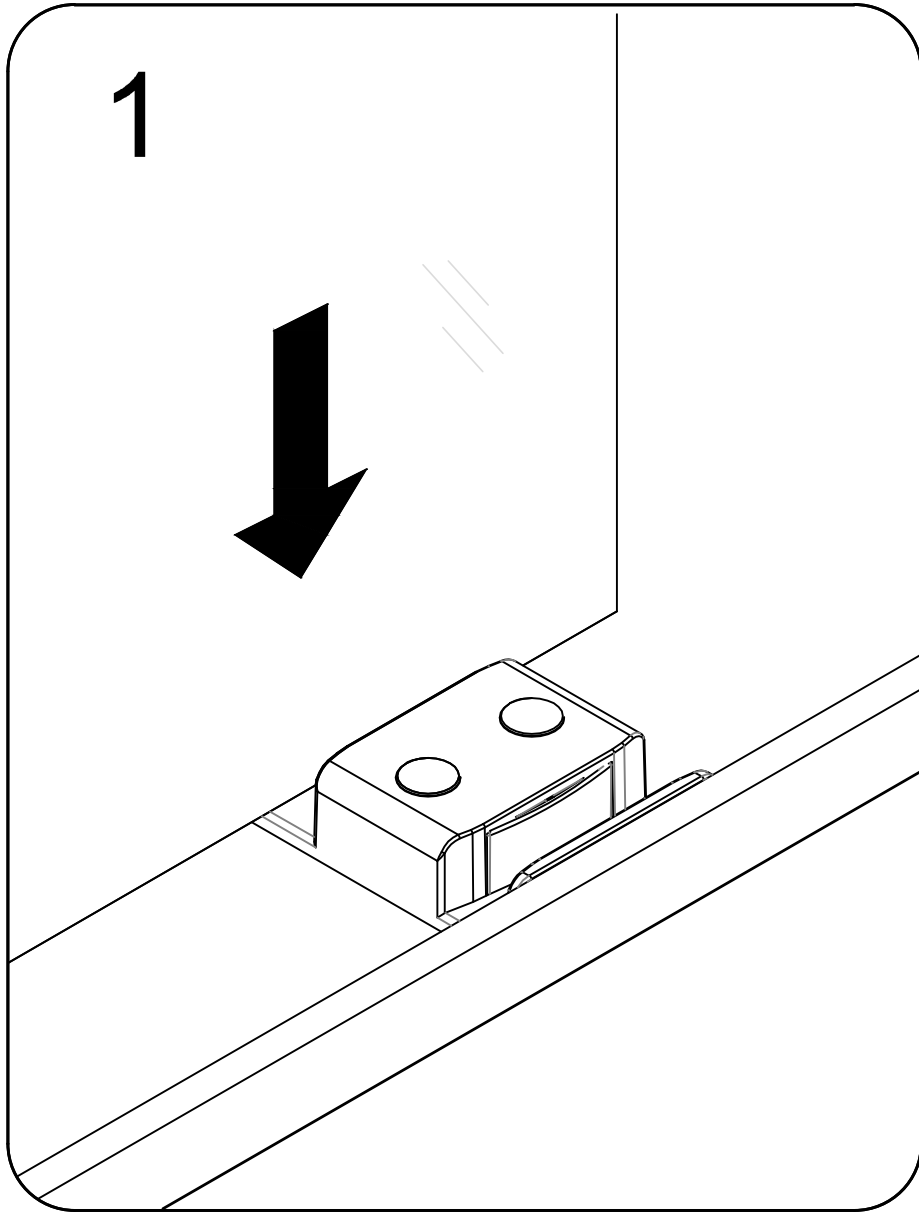

Fig.1
- 1.Insert the **Inside Door Panel(L)** into the **Bottom Guide(A)** as Fig 1.